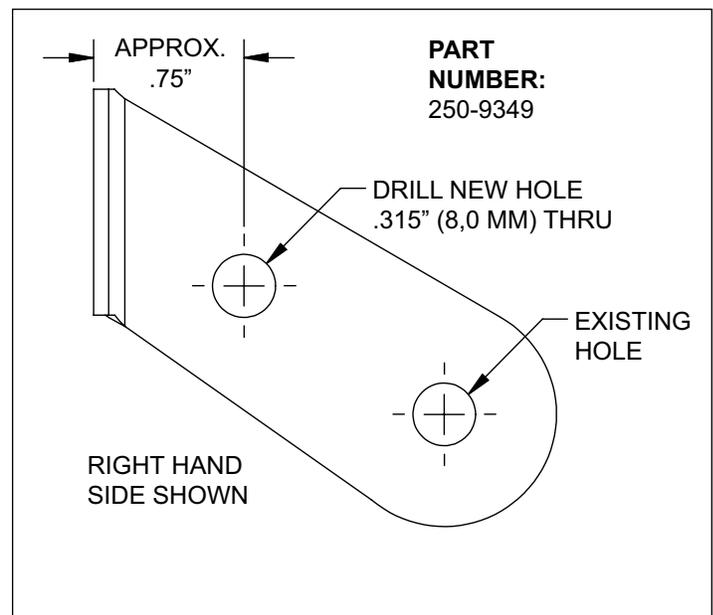

Figure 4.
- NOTE:** CRZ only. A new .315" hole needs to be drilled in the hose bracket (P/N 250-9349/50) as shown in Figure 4.